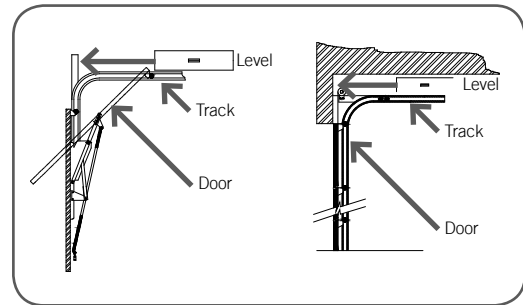

Fig. 10
- Using a level, transfer this height to the wall above the door (**Fig. 10**) and mark a line 60mm above it.